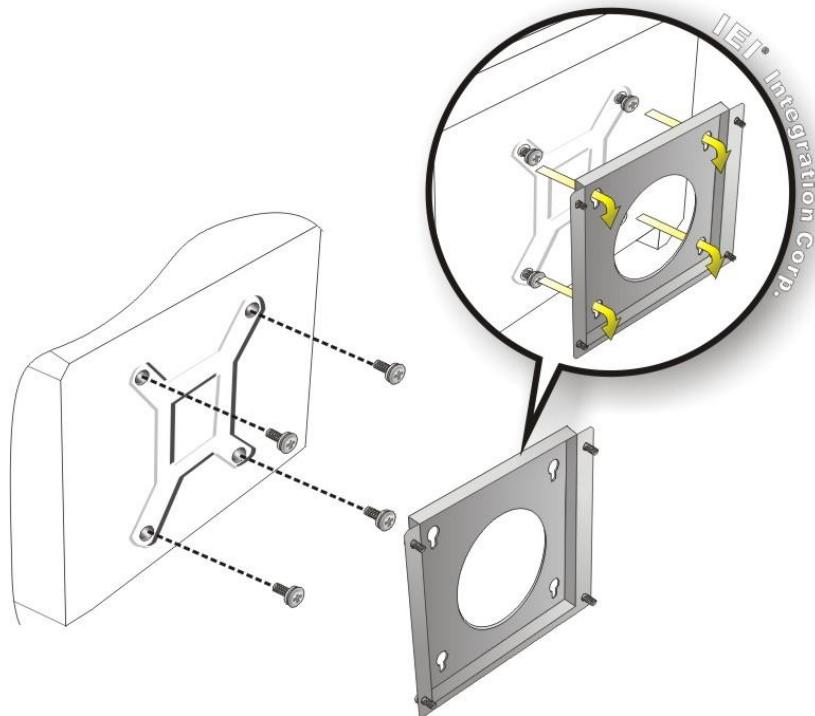

Figure 3-11: Mount the Chassis
Step 6: Insert the four monitor mounting screws provided in the wall mounting kit into the four screw holes on the rear panel of the monitor and tighten until the screw shank is secured against the rear panel (**Figure 3-11**).
Step 8: Carefully insert the screws through the holes and gently pull the monitor downwards until the monitor rests securely in the slotted holes (**Figure 3-11**). Ensure that all four of the mounting screws fit snugly into their respective slotted holes.